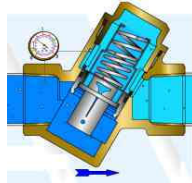

Figure 2
• If  $\Delta P$  is in the control range, the valve plug will adjust its opening in terms of the system's  $\Delta P$  change. This ensures a constant flow rate with a deviation no greater than  $\pm 5\%$  (Figure 2).